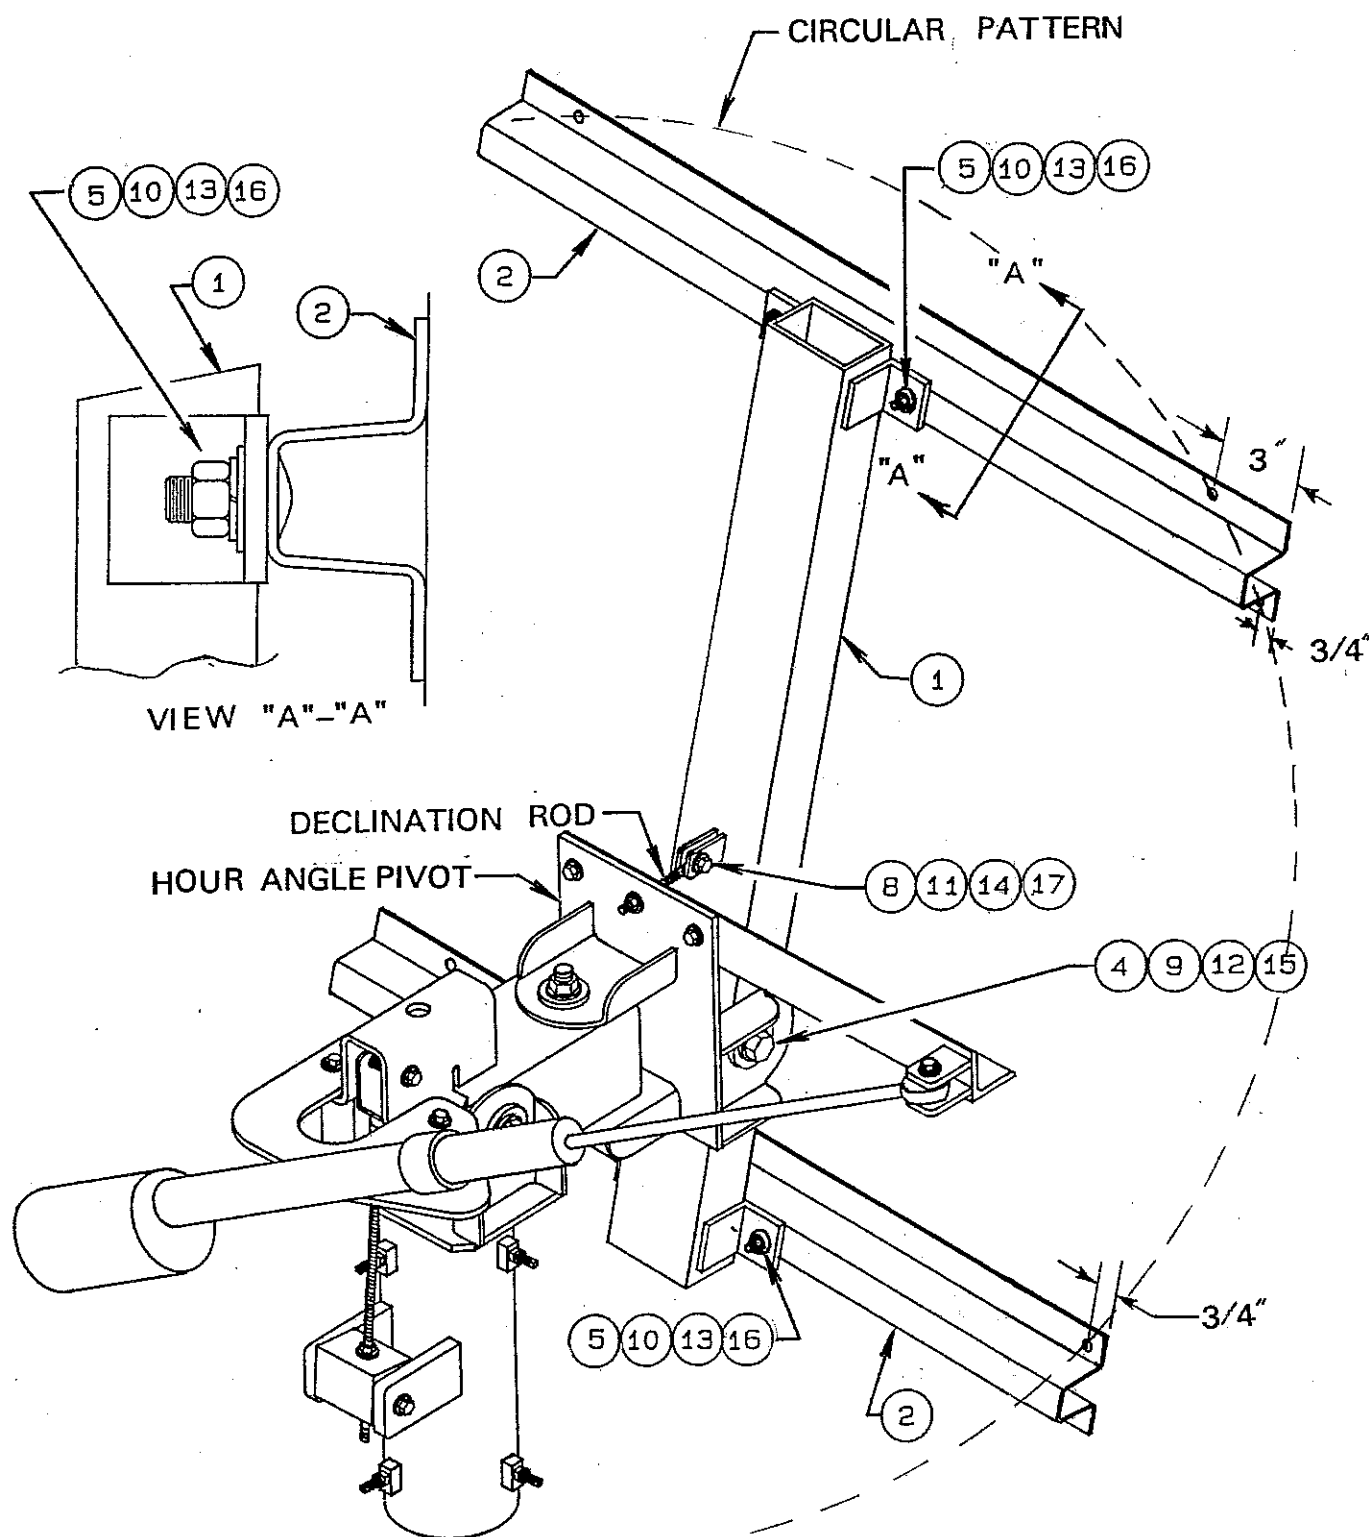

FIGURE 2.2-1
Refer to figures 2.2-1 thru 2.2-2 and the parts list for this section. Follow the instructions in the listed sequence. Tighten hardware only when instructed.
- STEP 3:** Mount the [2] reflector crossarms (item# 2) to the reflector support with the [4] 1/2-13 x 1.75" carriage bolts, [4] flatwashers, [4] lockwashers, and [4] hex nuts (item# 5,10,13,16). Make sure the outer holes in both crossarms are oriented in a circular pattern as shown in figure 2.2-1.